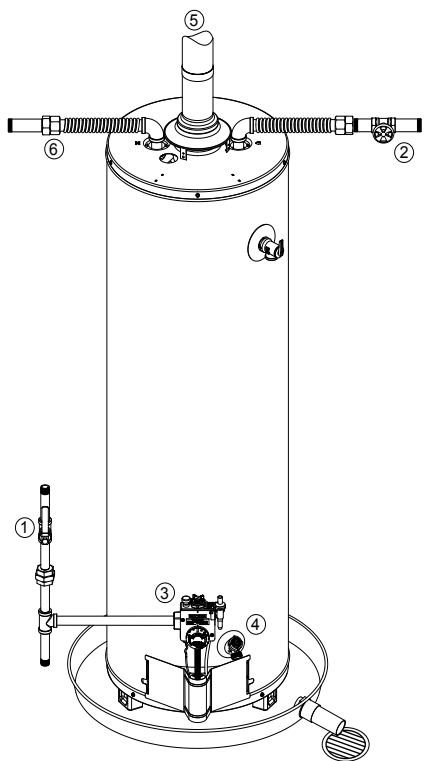

FIGURE 2.
If the main gas line shutoff valve serving all gas appliances is used, also shut “OFF” the gas at each appliance. Leave all gas appliances shut “OFF” until the water heater installation is completed, see Figures 2 and 3.
- ② Turn “OFF” the water supply to the water heater at the water shut off valve or water meter. Some installations require that the water be turned off to the entire house, see Figures 2 and 4.
- ④ Attach a hose to the water heater drain valve and put the other end in a floor drain or outdoors. Open the water heater drain valve. Open a nearby hot water faucet which will relieve pressure in the water heater and speed draining. The water passing out of the drain valve may be extremely hot. To avoid being scalded, make sure all connections are tight and that the water flow is directed away from any person, see Figures 2 and 5.